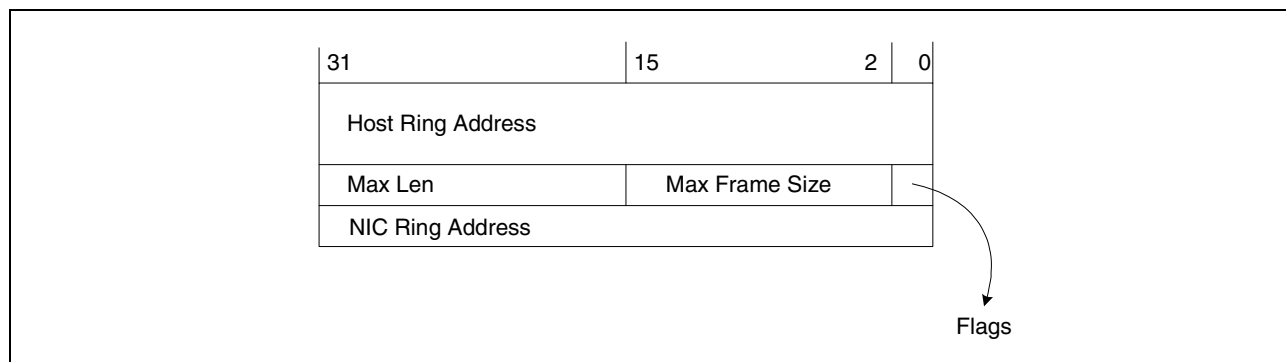

Figure 25: Ring Control Block
- When an extended buffer descriptor is returned to a receive return ring, the extended portion of the descriptor is truncated by the controller. The offset range 0x00–0x01F is the extended portion (see Figure 25).